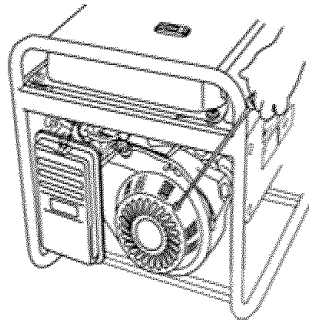

Figure 6- Pulling the start cord
6. Pull on the recoil starter handle slowly until a slight resistance is felt (see figure 6). Then pull quickly to start the engine. Return cord gently into the machine. Never allow the cord to snap back.
7. If engine fails to start, repeat step 4. **NOTE:** After repeated attempts to start the engine, please consult the troubleshooting guide before attempting again. If problems persist please call **(888) 315-3080 M-F 8-5 CT**.